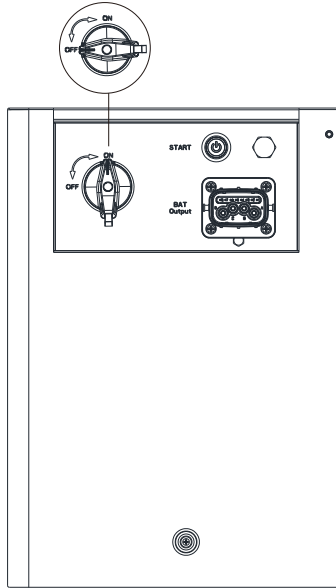

Figure 5.3 Power off the APX M-S3 system
- Step 3: Turn off the DC switch of the Master Module(Figure 5.3).